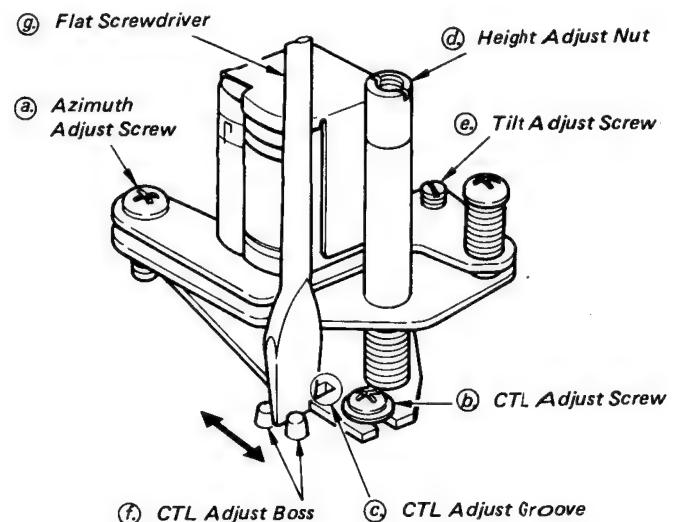

Fig. 5-128 CTL Adjustment
2. Adjust the nut ① to obtain the maximum level of the audio by a half quarter turn (see Fig. 5-128).
#### 34-7. CTL Position Adjustment (see Fig. 5-128)